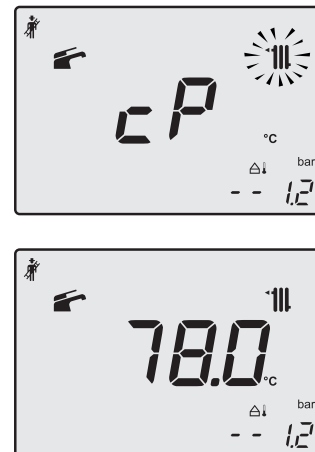

Fig. 9.23
- Press key 16 to vary the output in chimney sweep mode: when the LCD display displays the letters **cP** that alternate with the heating water temperature value (e.g. **78**), the "chimney sweep function" is at maximum (eventually range rated) output in heating mode (Fig. 9.23).